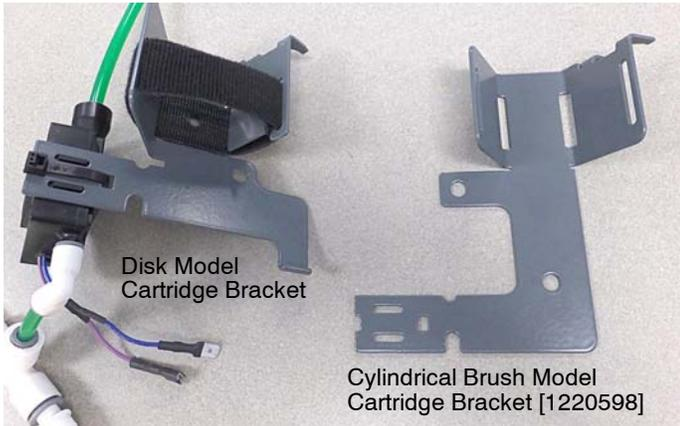

Fig. 47
- If installing the kit on a Cylindrical Brush Model, replace the Disk Model cartridge bracket with the Cylindrical Brush cartridge bracket as shown (Figure 47). Transfer velcro strap and attach pump to bracket using wire-tie [130773].